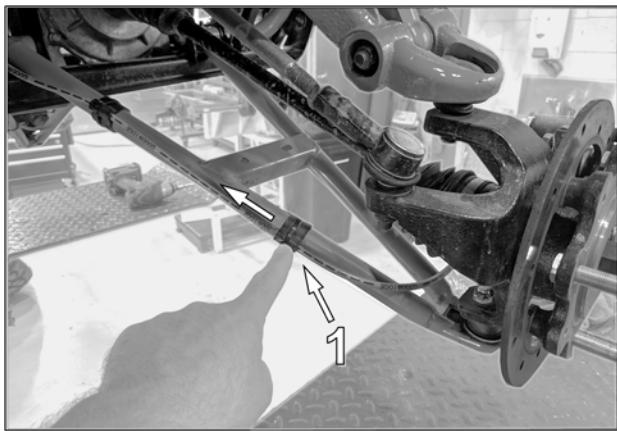

Fig. 15
5. You may have to slide the brake hose clamp (**1**) up a bit on the suspension arm to facilitate installation of front bracket. See Fig. 15